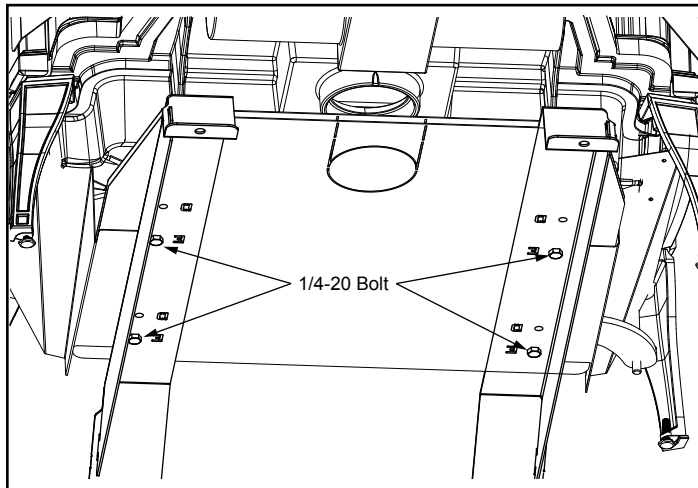

Figure 5.1 - Remove unit from shipping brackets.
Remove the unit from the shipping brackets by removing (2) 1/4-20 hex head bolts from each shipping bracket, leaving brackets attached to the skid, Figure 5.1. (Save the 1/4-20 hex head bolts as they will be needed later to install heat shield.)